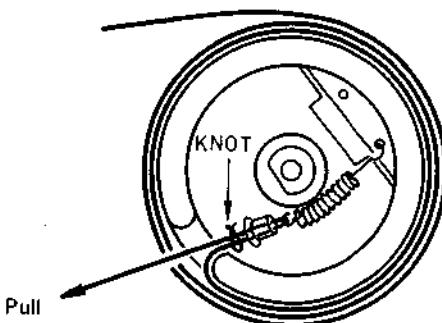

Fig. 2-11-4 Dial Cord Finish Point Detail
- (i) Make three clockwise turns around the drive drum and pass the cord through the slot of the drive drum. Hook the cord to the spring, using an eyelet, as shown in Fig. 2-11-4.
- (j) Pull the cord to give it a tension and squeeze the eyelet. Make a knot to keep the spring under tension. See Fig. 2-11-4.